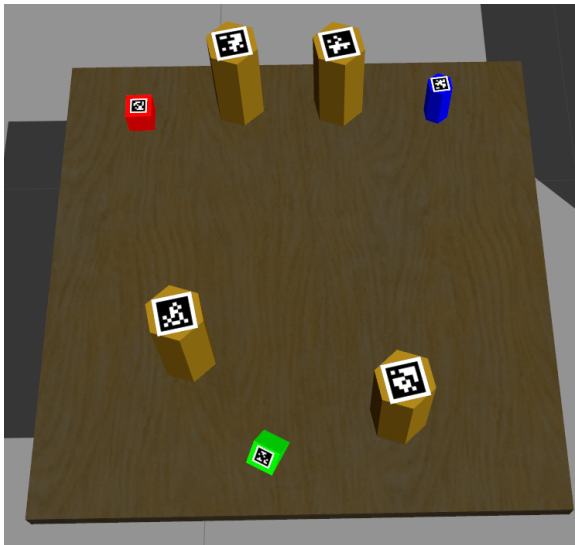
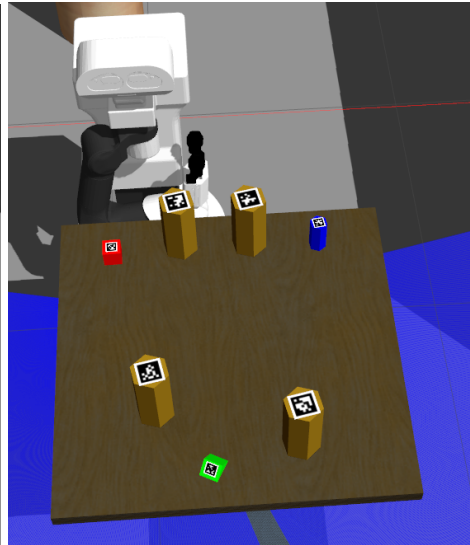
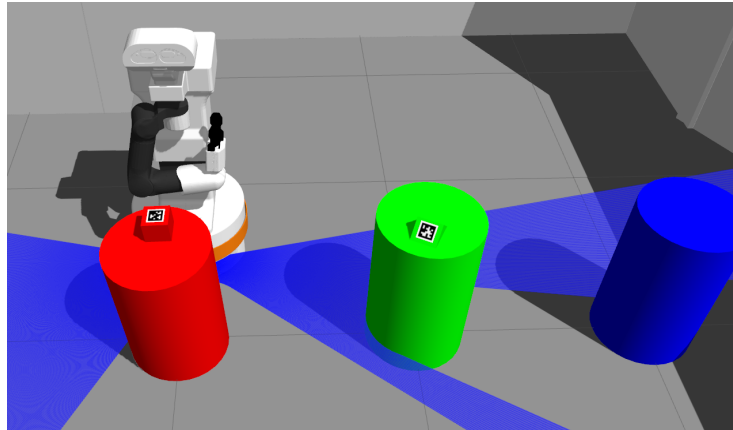

Figure 1
Figure 2
Figure 3
In the simulated environment there are 7 objects on a pick-up table: A red cube, a green triangle and a blue hexagon, plus 4 gold hexagons (Figure 1 and Figure 2). The gold hexagons are obstacles, and Tiago must not collide with them (or with the table) while grasping the required objects. Once an object is grasped it must be fetched and placed on the cylindrical table of the same color (see Figure 3).
The pose of the objects on the pick-up table can be obtained by exploiting the Tiago's camera and the AprilTag library thanks to the markers placed on the top of these objects. The AprilTag library identifies the markers through the IDs encoded in the QR codes. Each marker has a specific identifier. Finally, the shape of every object is known (see Figure 1).
You have to develop a routine, exploiting the MoveIt! library, to pick and place each object (according to the received sequence) from the pick-up table (Figure 1 and 2) to its final destination in accordance with its color (i.e., the red cube on the red cylinder table) (Figure 3).
1. Navigate in front of the table with the navigation stack (Figure 2). The position in front of the table is up to you.
13. Navigate to the correct destination (Figure 3). You can decide the final pose of the robot in front of the cylindrical table and use the navigation module to navigate to that point.